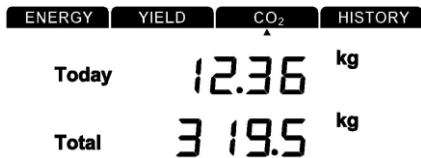

Fig 3-4 CO2 Interface
- 3) CO2 interface: display CO2 emission volume today and in total as Fig3-4